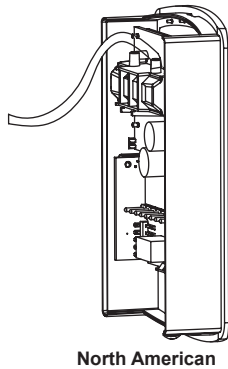

Figure 6: Wall Mount Calibration
- Step 2: Remove one of the gas nipple covers on the CO₂ sensor and attach tubing from the gas pressure regulator to the nipple (See Figure 6).
- Step 4: Hold housing so that the sensor is in the vertical plane as shown in Figure 6.